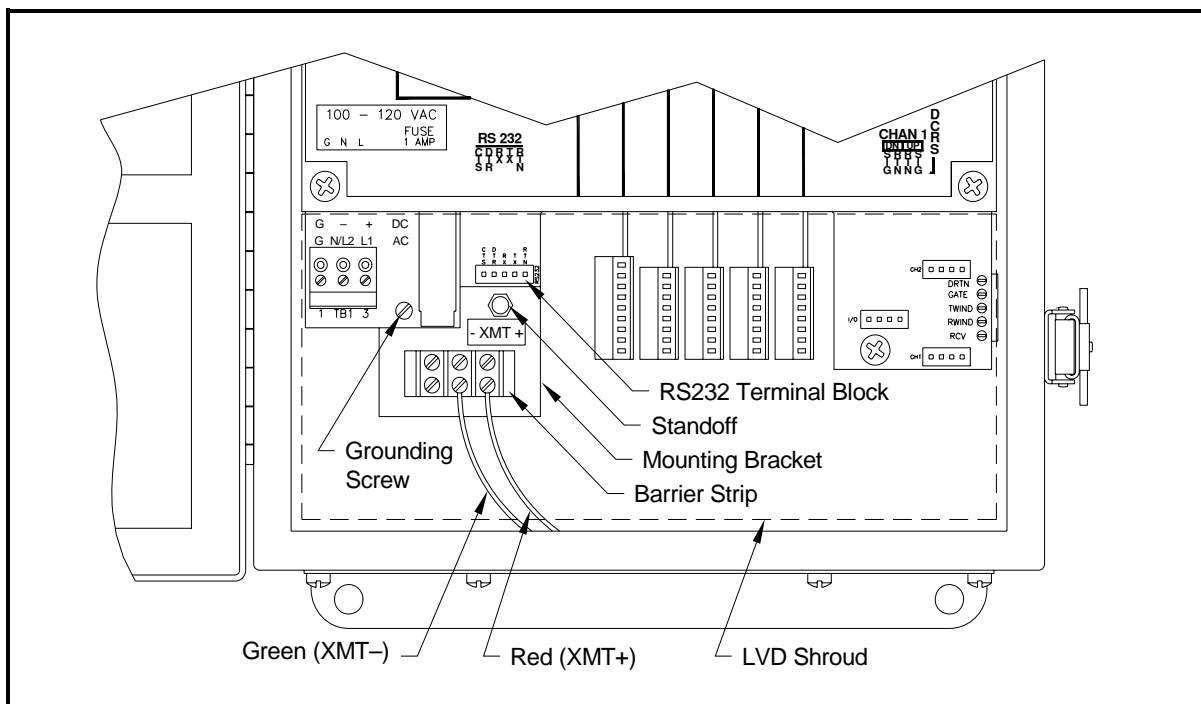

Figure 6-1: Interface Converter Mounting
A special bracket containing the serial interface converter and a three-terminal barrier strip is mounted inside the Model GS868, just below the RS232 terminal block (see Figure 6-1 below). The standard RS232 terminal block is wired to the input of the serial interface converter, and the RS485 output of the serial interface converter is wired to the barrier strip.
Standard factory wiring of the RS485 serial interface is configured for point-to-point wiring. That is, a single Model GS868 may be wired directly to a single personal computer. To connect the RS485 serial interface, refer to Figure 6-1 on page 6-5 and complete the following steps:
3. Remove the serial interface converter *mounting bracket* by removing the standoff located just below the RS232 terminal block and the grounding screw to its left (see to Figure 6-1 on page 6-5).